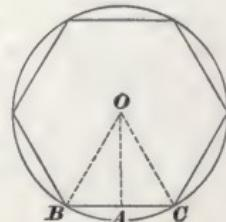

FIG. 36.
EXAMPLE.—In Fig. 36 the side  $B C$  of the regular hexagon is 12 inches and the distance  $A O$  is 10.4 inches; required the area of the polygon.
**82.** To find the area of a sector (a **sector** of a circle is the area included between two radii and the circumference, as, for example, the area *BACO*, Fig. 36):